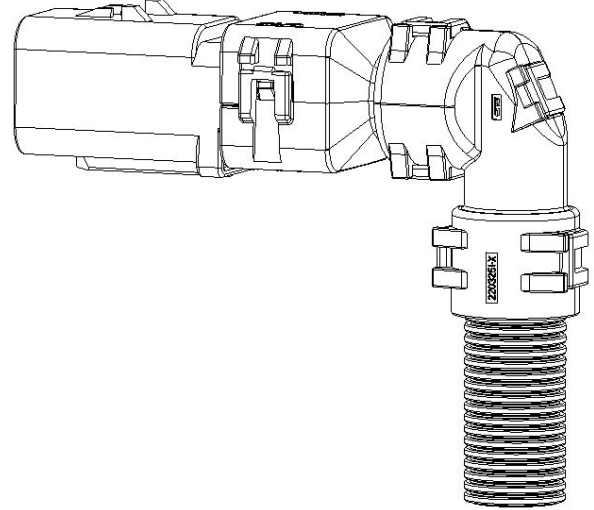

Figure 19
5. The complete AMPSEAL16 Right Angle Backshell assembly is shown in Figure 19.